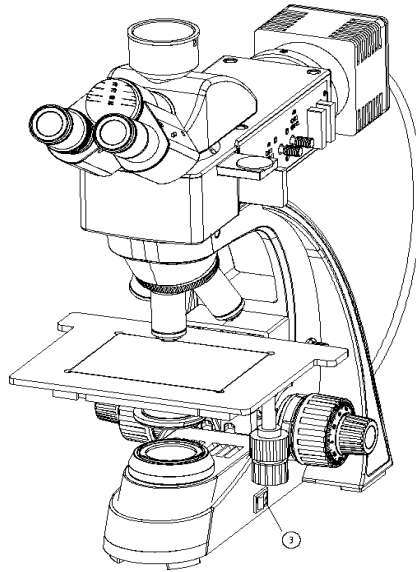

Fig.2
5. For safety reasons, before replacing the bulb or fuse, ensure that the power switch ③ is in the "O" (off) position and the power is disconnected. Wait until the bulb and lamp holder have completely cooled before replacing. (See Fig. 2)